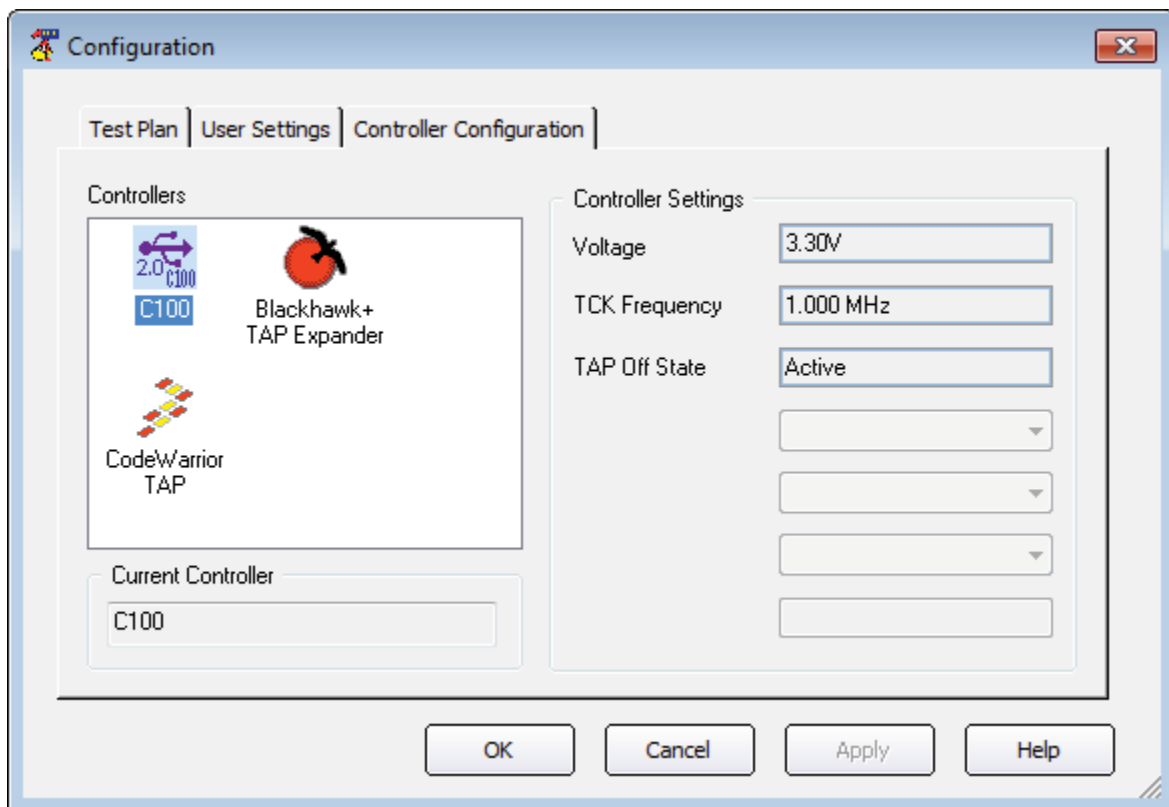

Figure 2-13. Controller Configuration Screen
3. Select the **Controller** menu entry on the **Setup** menu, or press **F4**, to display the Controller Configuration window as seen in Figure 2-13.